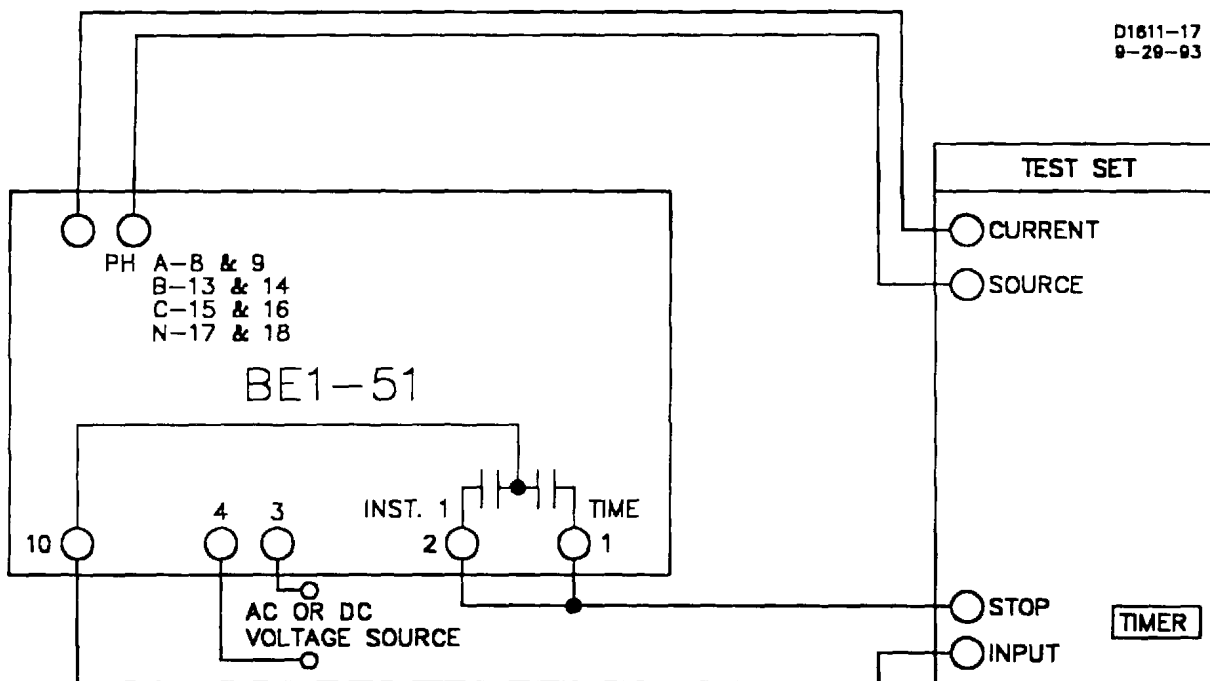

Figure 5-3. Test Setup for Sensing Input Type H or V (Three-Phase with Neutral Sensing)
- (c) Sensing Input Type H or V (Three-Phase with Neutral Sensing). Refer to Figure 5-3. Ensure that the timed output terminals 1 and 10 are connected. Also, verify that either A, B, or C current sense terminals are connected initially (N terminals will be connected later in the test).
- (d) Sensing Input Types H or V (Three-Phase with Neutral Sensing). Remove the power and reconnect the input sensing each of the remaining phases as shown in Figure 5-3, each time repeating Steps 1 through 10. For neutral testing continue with Step 12.
For the neutral sensing (terminals 17 and 18), connect the relay as shown in Figures 5-3 and 5-4, then perform the following steps (Steps 13 through 21).
Step 11. Remove the power and reconnect the test output to the neutral current sensing input of the relay as shown in Figures 5-3 and 5-4 (terminals 17 and 18).